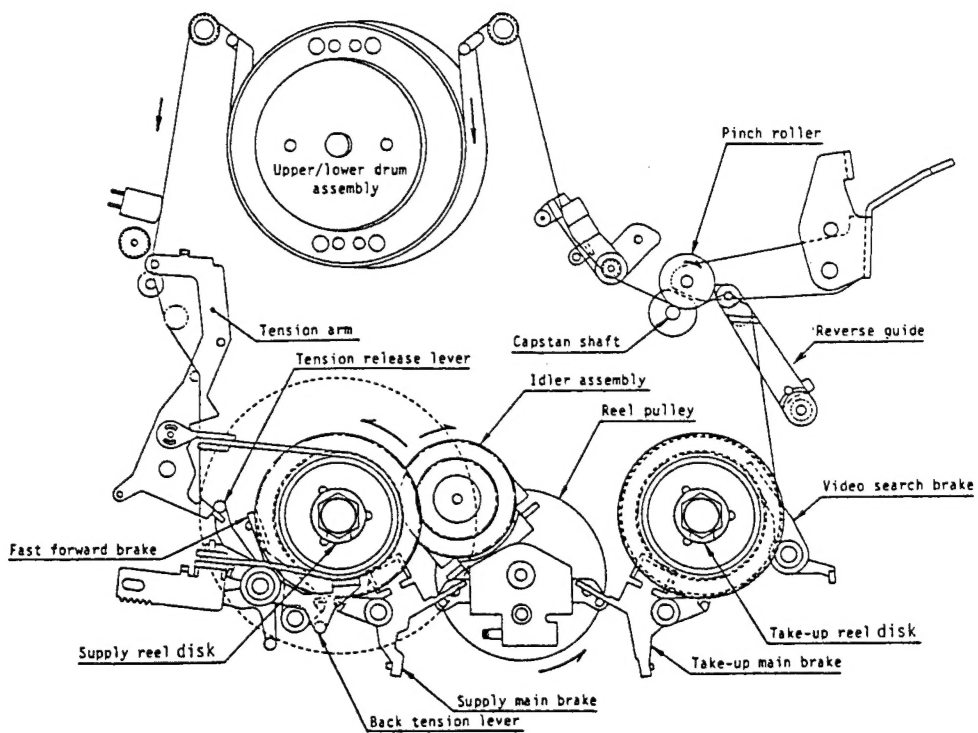

Figure 1-9. Cassette Tape Take-up Mechanism 5 (Upper stage)
- 10) The back tension in the VS and REW modes is given by the video search brake for the take-up reel disk. (Figure 1-9.)
- 11) In the VS and REW modes, the tension release lever slackens the tension band so that only the brake of the back tension lever acts on the supply reel disk. (Figure 1-9.)
- 12) The reverse guide works in the VS and REW modes in order to stabilize tape drive train during reverse running. (Figure 1-9.)